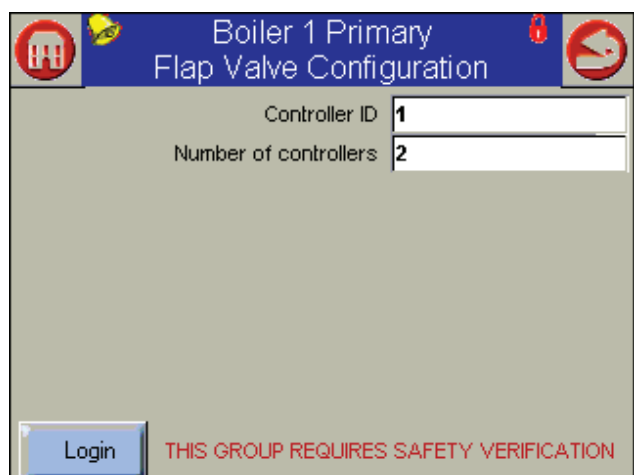

Fig. 73 – Flap Valve Configuration Screen
4. Scroll through the listing on the Configure menu to Flap Valve Configuration, and select that line. See Fig. 73.